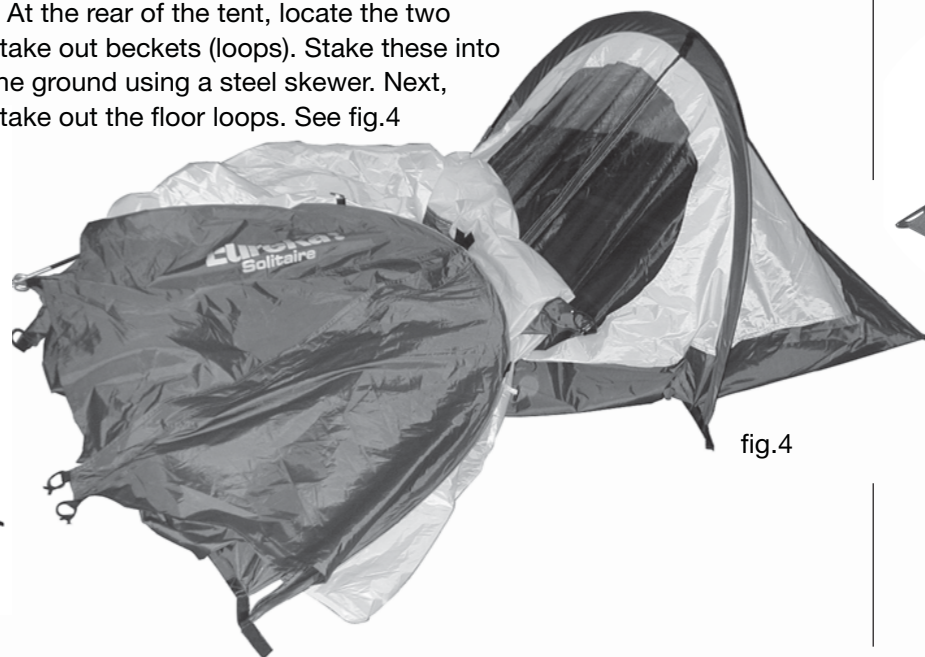

fig.4
- At the rear of the tent, locate the two stake out becketts (loops). Stake these into the ground using a steel skewer. Next, stake out the floor loops. See fig.4